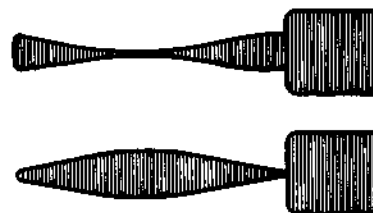

Fig. 5-35 Incorrect waveform examples
2. If the waveform varies as shown in Fig. 5-35, adjustment becomes required.